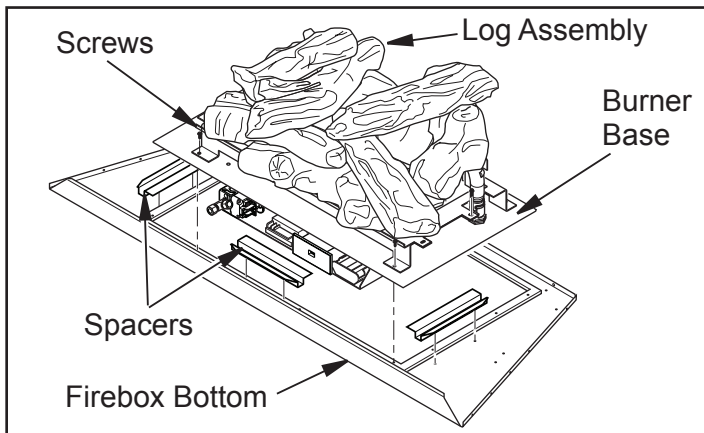

Figure 4 - Removing/Installing Burner Base
9. Remove 3 spacers and one back flange from firebox bottom by removing 13 screws from front, sides and back of firebox burner base to disengage from firebox bottom. Lift up entire base from unit (see Figure 4).
7. Reinstall 3 spacers and the rear flange to bottom firebox (see Figure 4).